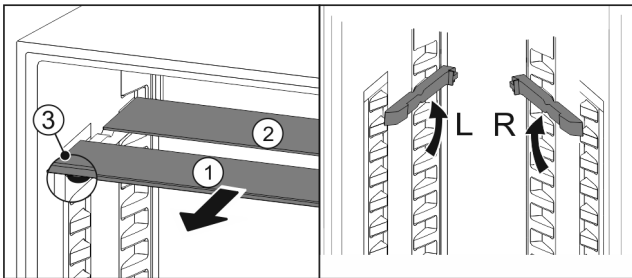

Fig. 31
- ▶ Pull the glass panels out Fig. 31 (1) from the front, one at a time.
- ▷ The glass panel Fig. 31 (1) and trim strip are at the front.
- ▷ The stops Fig. 31 (3) point down.